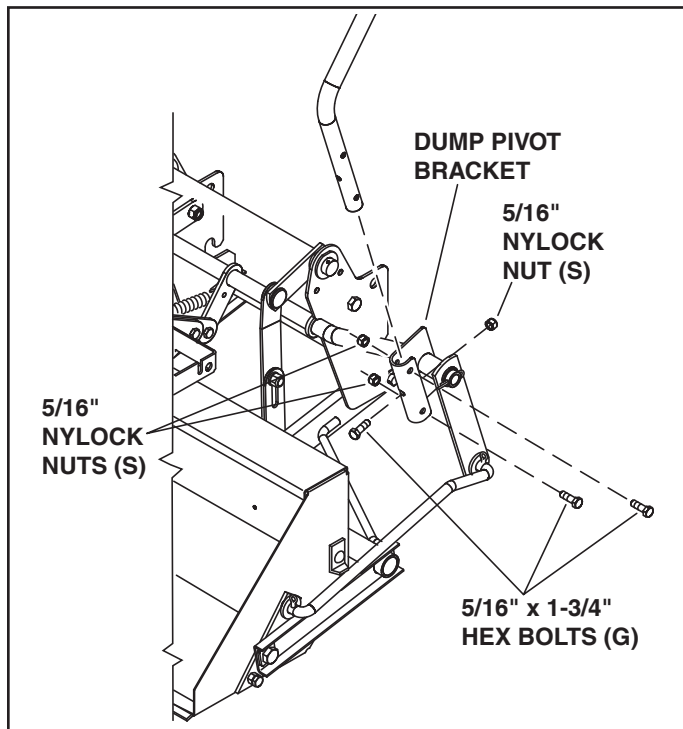

FIGURE 13
STEP 14: INSTALL DUMP HANDLE TUBE (SEE FIGURE 13)
- Install the dump handle tube to the dump pivot bracket assembly using three 5/16" x 1-3/4" hex bolts (G) and 5/16" nylock nuts (S).